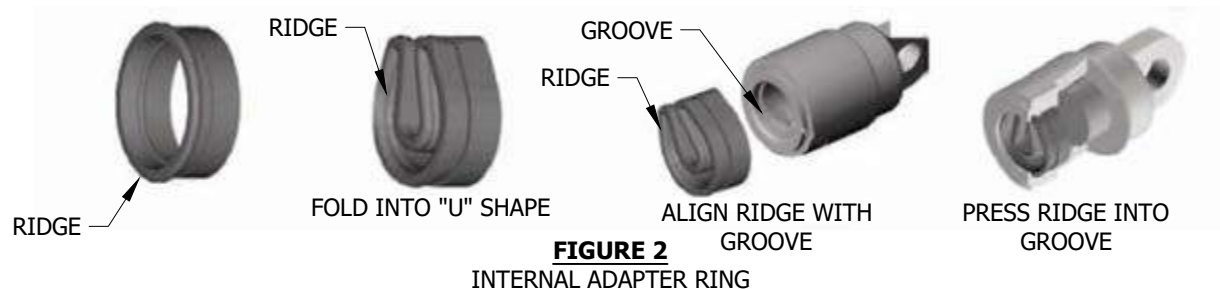

FIGURE 2
2. FOR ELASTIMOLD 15, 25, OR 35KV LBE ELBOWS HAVING MOLDED IN TEST POINTS, INSTALL INTERNAL ADAPTER RINGS AS SHOWN IN FIGURE 2. (OTHER ELBOW TYPES CONSULT FACTORY).